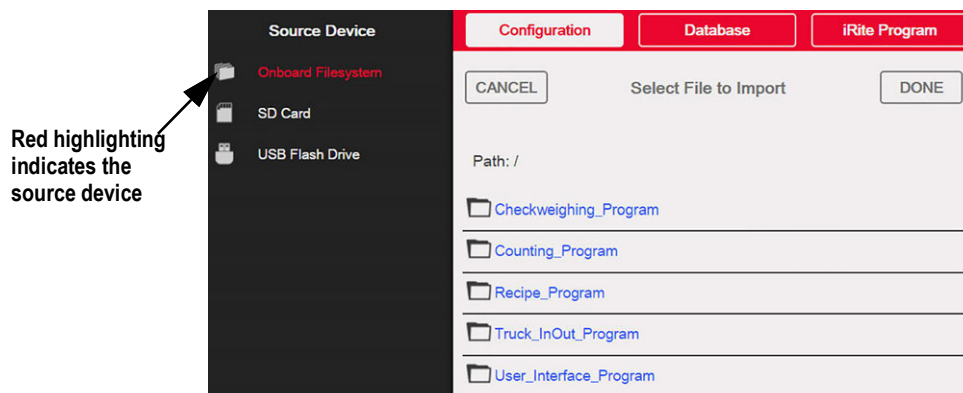

Figure 14-1. Import Configuration
NOTE: *The Import Configuration screen looks the same whether importing from an onboard file system, a micro SD card or a flash drive. The only difference is the source device is highlighted in red on the left side of the screen. For an example, see Figure 14-1, a file is being imported from an onboard file system.*
2. Press **Import from File**. The Import Screen displays, see Figure 14-1 on page 123. Load both the .rev and .cod files to use the built-in application programs.
4. Select **Import from File**. The Import Screen displays, see Figure 14-1 on page 123.
2. Press **Import from File**. The Import Screen displays, see Figure 14-1 on page 123.
3. Press **Import from File**. The Import Screen displays, see Figure 14-1 on page 123.